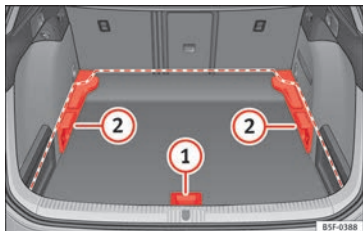
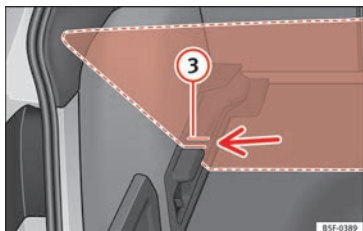

Fig. 185 Luggage compartment variable floor: positions.
Fig. 186 Luggage compartment variable floor: grooves tilted.
- Lift the floor using handle »» Fig. 185 ① and pull it back until the front of the floor has fully passed the supports ②.
- Move the floor forward over the supports as far as the rear seat backrest and then lower the floor with the handle ①.
- Now match the front part with the lower grooves of the supports and slide the floor forwards as far as the rear seat backrest and lower the floor at the same time with the handle ①.
- Lift the variable floor using handle »» Fig. 185 ① and pull it back until the front of the floor has fully passed the tilted grooves »» Fig. 186 ③.
- Run the floor through these grooves with the help of handle ① as the rear seat backrest and until the floor is resting in the grooves.